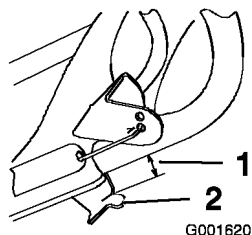

Figure 21
2. Ensure that a 1/8 to 1/4 inch (3 to 6 mm) gap exists between the control bar bracket and the handle (Figure 21).